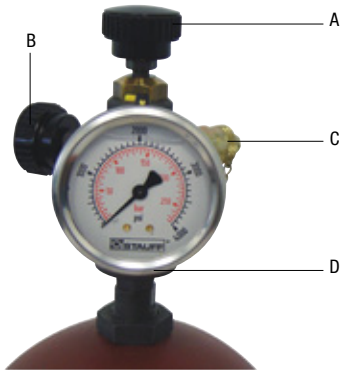

Figure 1.
16. Adjust to desired pressure by means of bleed valve **B** (Figure 1.), then, with a wrench screw in the top hex on the accumulator gas valve until tight, then remove charging unit from the accumulator gas valve and from the nitrogen bottle (after making sure that the nitrogen bottle valve is completely closed).